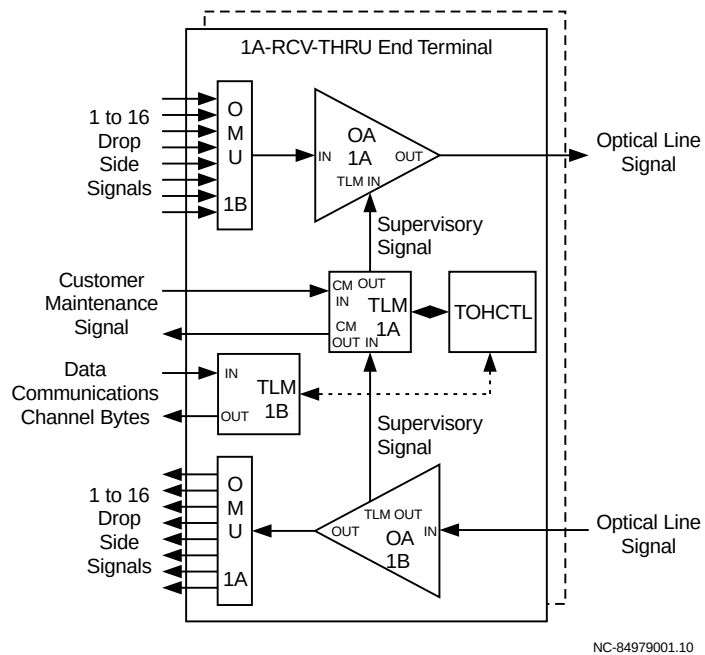

Figure 5-10. Single Optical Amplifier 1A-RCV-THRU End Terminal Transmission Block Diagram
Figure 5-10 shows a transmission block diagram of the End Terminal Shelf with a single Optical Amplifier (OA) circuit pack provisioned as a 1A-RCV-THRU end terminal.
In Figure 5-10, the End Terminal Shelf interfaces with up to 16 GbE-1/OC-48/STM-16, OC-12/STM-4, OC-3/STM-1, and/or 100-750 Mb/s drop side signals, one IS-3 customer maintenance signal, one data communications channel, and up to two bidirectional optical lines.